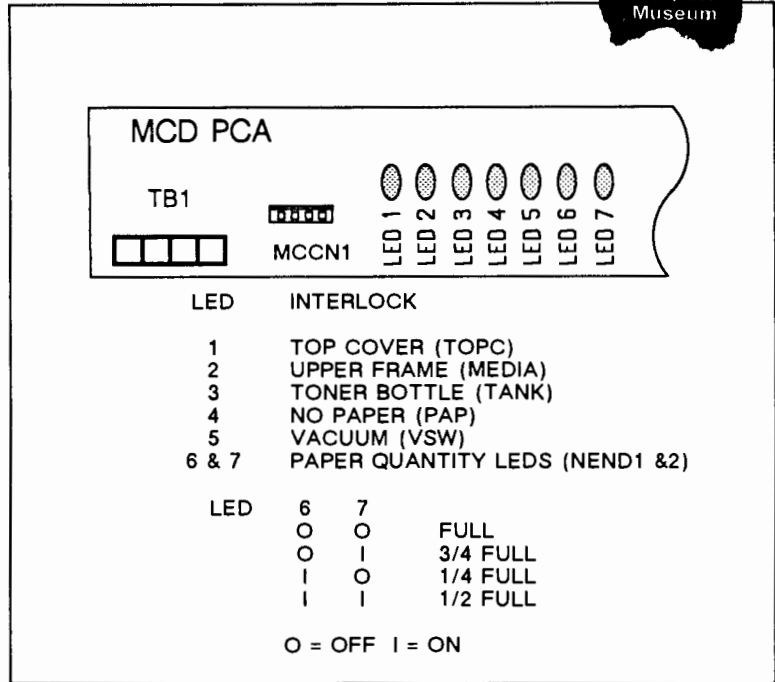

Figure 4-15. MCD Interlock LEDs
- f. Initiate the operational mode which caused the error and observe the LEDs on the MCD PCA. See Figure 4-15 to determine the interlock circuit involved.